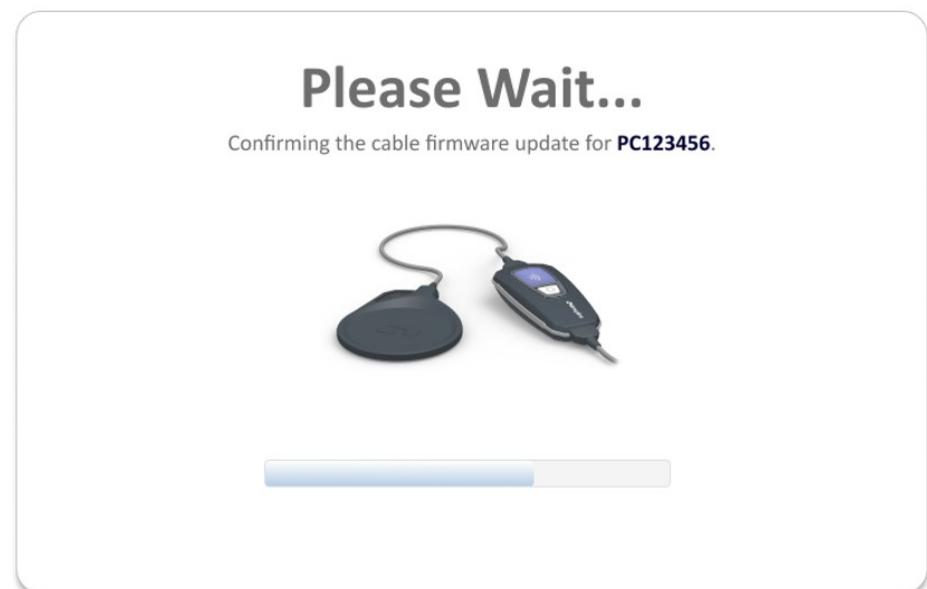

Figure 3-15. Please Wait
f. After pairing has successfully completed, wait while the update is confirmed (Figure 3-15).